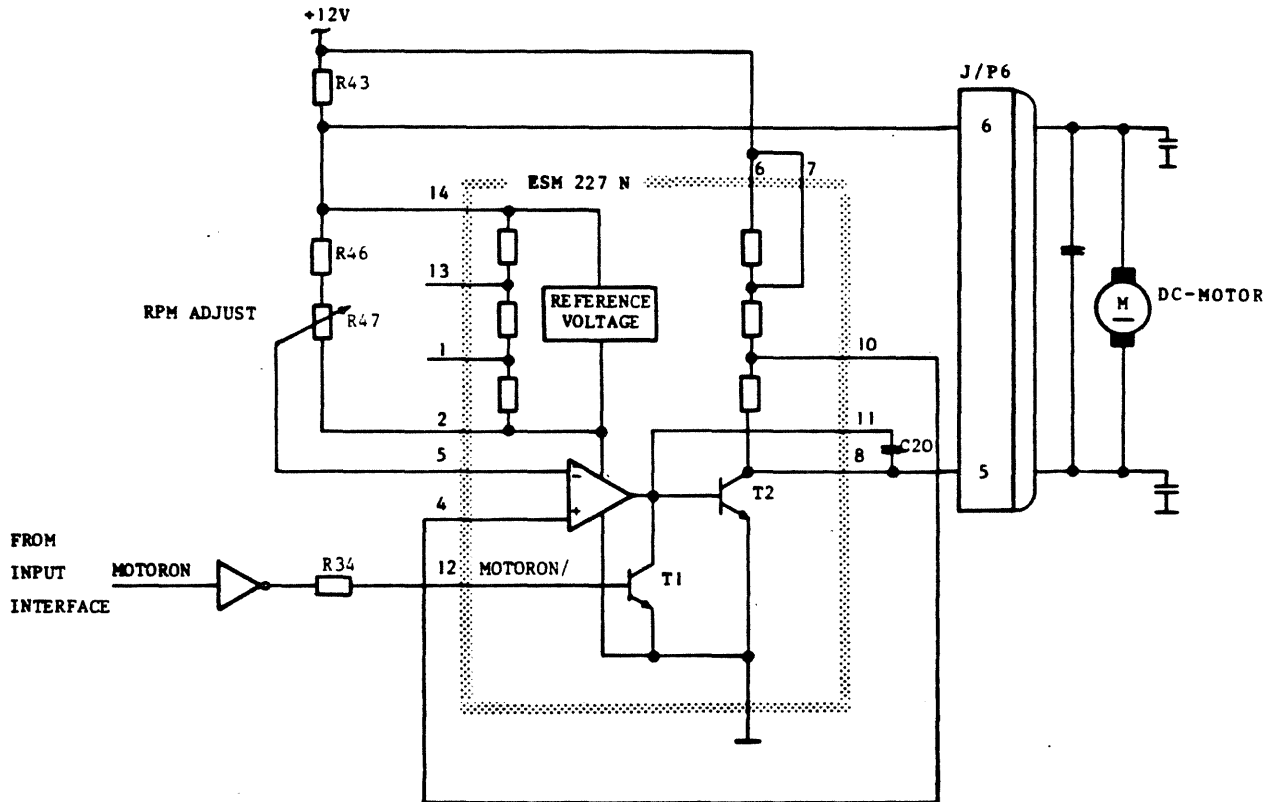

FIGURE 2 - 18 . DRIVE MOTOR CONTROL
2.2.4. HEAD LOAD LOGIC (Fig.2 - 19 )